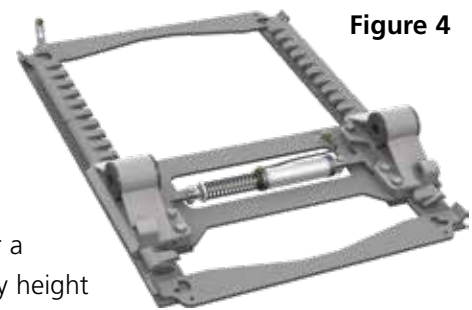

Figure 4
- 1) "Over-the-Frame Inboard Angle Mount" (**Figure 4**)